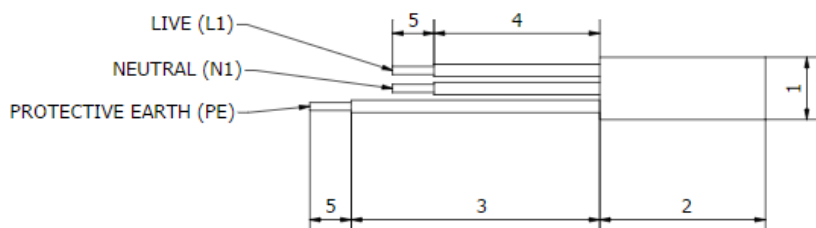

Figure 10: Wire length preparation diagram
- The mains power cable to the Sunamp Controller should be a minimum of 2.5mm2, 3 core HO5 VV-F sheathed cable, to BS 6500. This cable must be prepared according to Figure 10 (below), where the Green/ Yellow (Protective Earth) cable is 15 mm than the Brown (Live) and Blue (Neutral).
- Prepare if necessary and wire the mains power cable in the following terminals (Figure 10):